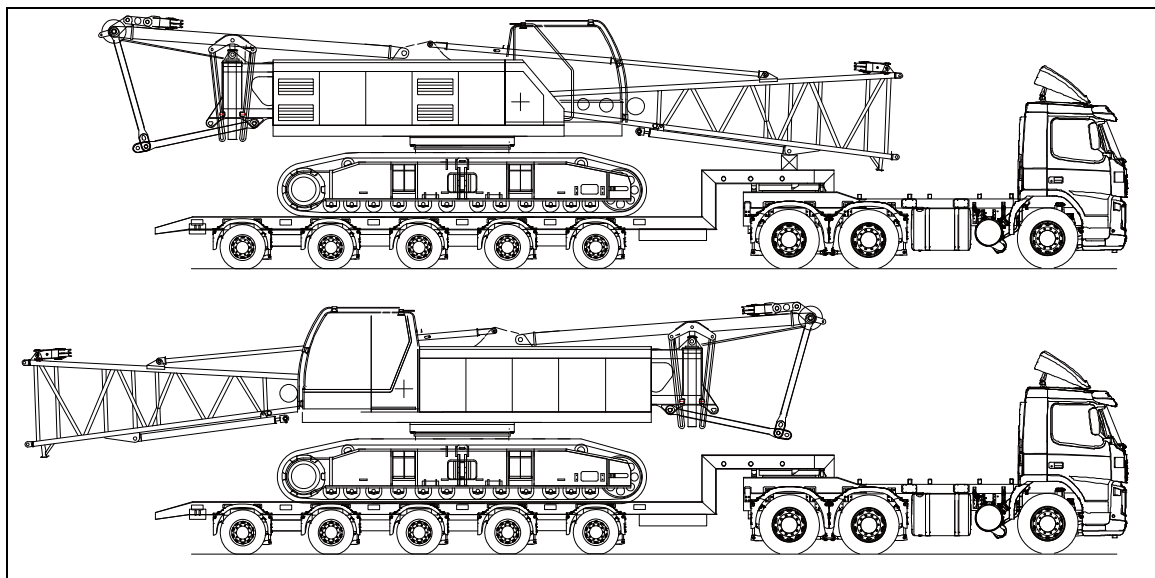

Figure 5-1 Unloading the basic machine
- a) After the basic machine reaches the jobsite, remove fixing devices and the package. Pull out slewing fixing pin, and slew it for 180°. See the figure 5-1.